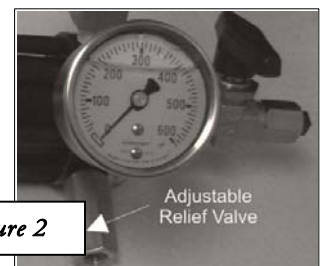

Figure 2
1. Open the product purge valve (see Figure 2) to purge the system of any contaminants. Close the purge valve.